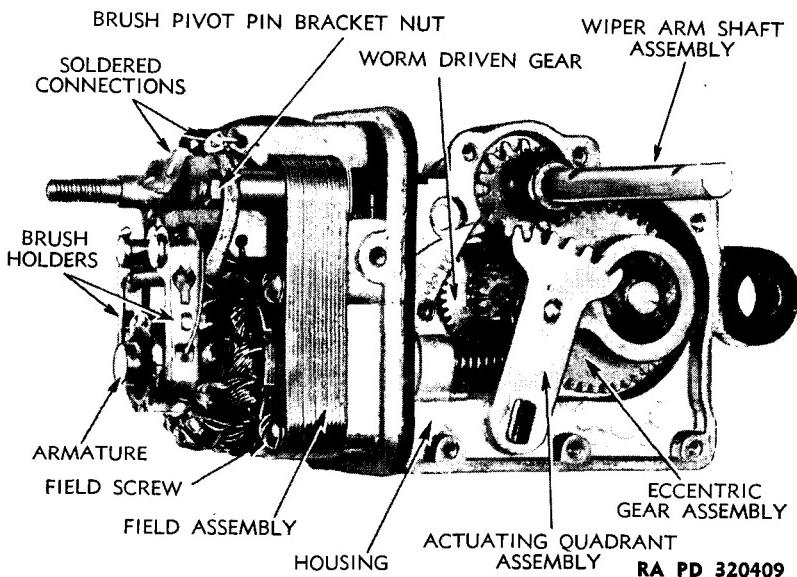

Figure 5 — Wiper Motor, Cover Removed
b. Remove Gears (fig. 5). Pull wiper arm shaft assembly from housing. Pull actuating quadrant and connecting rod
c. Remove Armature (fig. 5). Unhook brush holders from pivot pins, being careful not to break pigtails, and lay up over wire connection post out of way. Pull armature from housing.
d. Remove Field Assembly (fig. 5). Unsolder wires from connecting terminal and field coil connections at top of field coil, and tag for identification. Remove four screws and washers from field poles, and remove field assembly.